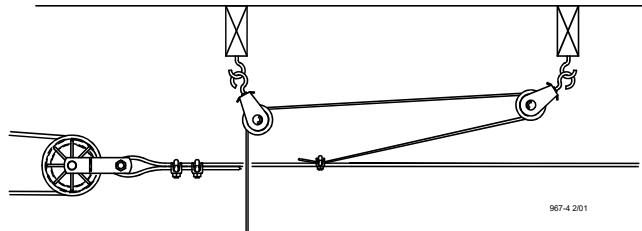

Figure 17. "Throwback" cable arrangement
3. Allow enough cable length for installation of the adjustment leveler. Sufficient cable is included to provide "throwbacks" on drops located beneath and near the winch. **Figure 17** shows a "throwback" cable arrangement.